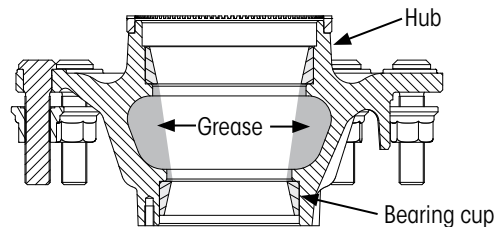

Figure 11: Pack hub inner cavity
- B. **Pack** hub inner chamber, full circle (Figure 11), with grease to slightly above the level of the bearing cup.
1. **Gently slide** the pre-lubricated hub (packed, Figure 11 on page 12) onto spindle, taking care not to damage the seal.